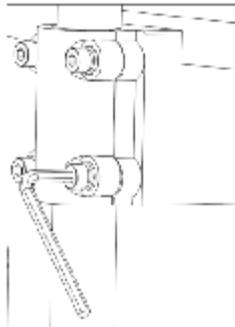

Figure 7
2. Install the tray on the tray fixture, and reset it with the M 5X40 hexagonal stud,  $\phi$  5 spring washer and  $\phi$  5 flat washer. When tightening the front hexagonal stud, you need to rotate the tray back, and rotate the back hexagonal stud forward (see Figure 7).